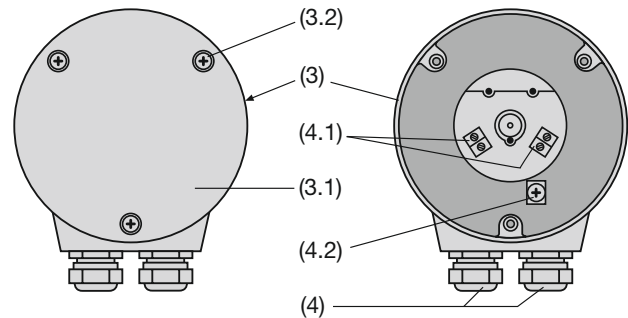

Fig. 6. Rear (3) with terminals (4.1) and (4.2) and cable glands (4). Left: Cover (3.1) closed. Right: Exposed.
In the case of transmitters fitted with **screw terminals** and **cable glands**, there are 4 screw terminals (4.1) plus 1 ground terminal (4.2) which are accessible after removing the cover (3.1) (see Fig. 6). The maximum wire gauge the terminals can accept is 1.5 mm².
- ... with **screw terminals** and **cable glands**, remove the 3 screws (3.2) and the cover (3.1) (Fig. 6, left).